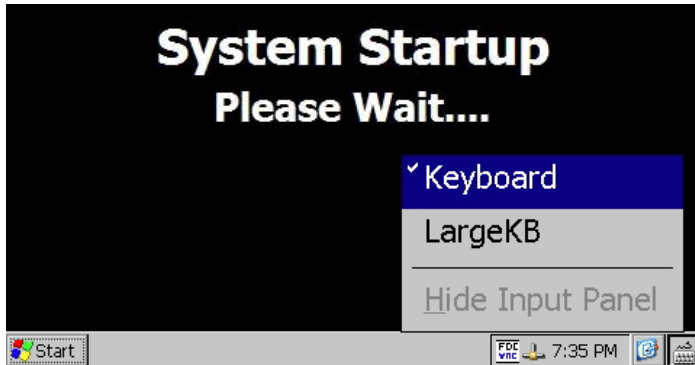

Fig. 125: Activate CE Keyboard
- Enable the CE keyboard (Fig. 125) so that it will be available to enter in the IP address. **Enable it now** or the taskbar cannot be accessed later once in the Ethernet Drivers screen. To enable the keyboard, touch the keyboard icon at the lower right of the taskbar. Select ‘Keyboard’ from the menu to make the keypad visible.